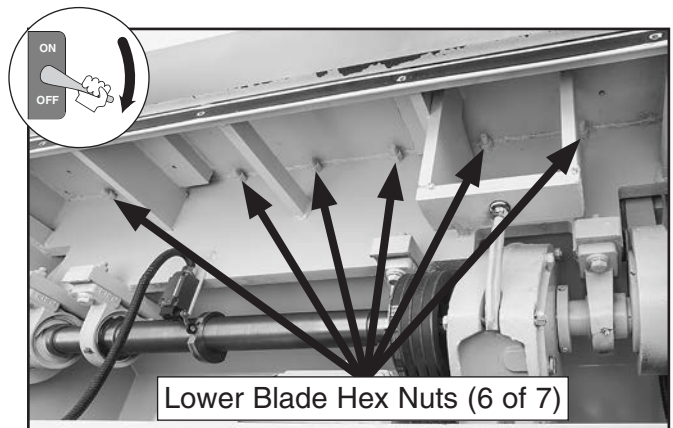

Figure 62. Location of hex nuts and flat washers securing lower blade to frame.
3. Have assistant wearing heavy leather gloves hold keyed flat head cap screws at rear of machine. Working from front of machine, loosen but do not remove (7) hex nuts and flat washers securing lower blade to rear of table (see **Figures 62 & 63**).